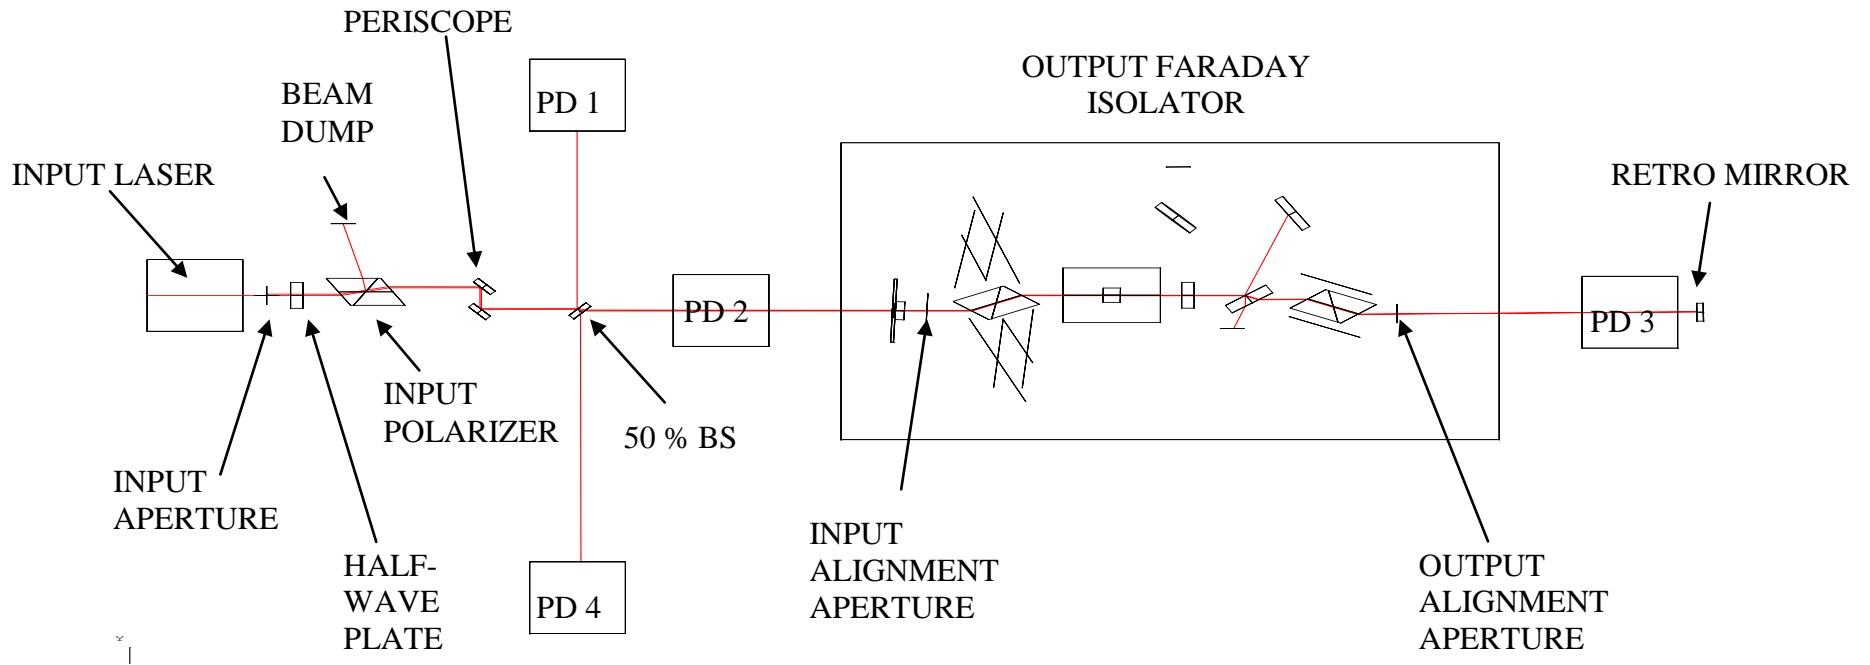

Figure 28: Optical Layout for OFI Alignment
2. Mount the input laser, the input laser aperture, the steering mirror, and the beam splitter approximately 171.4 mm above the surface of the optical table in accordance with the optical layout shown in Figure 28. The height of the OFI optical centerline will be 167.8 mm above the table top, and the input laser beam will tilt down toward the input aperture, before being turned horizontal by the OFI wedge prism. The retro-mirror should be approximately 168 mm above the table.